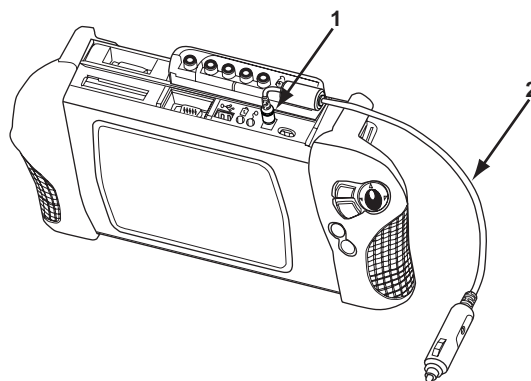

Figure 3-2 Sample Vehicle auxiliary power cables connected
- Plug the 2.5 mm end of the Lighter Power Cable into the DC power supply input located on top of the MODIS™ unit (Figure 3-2).